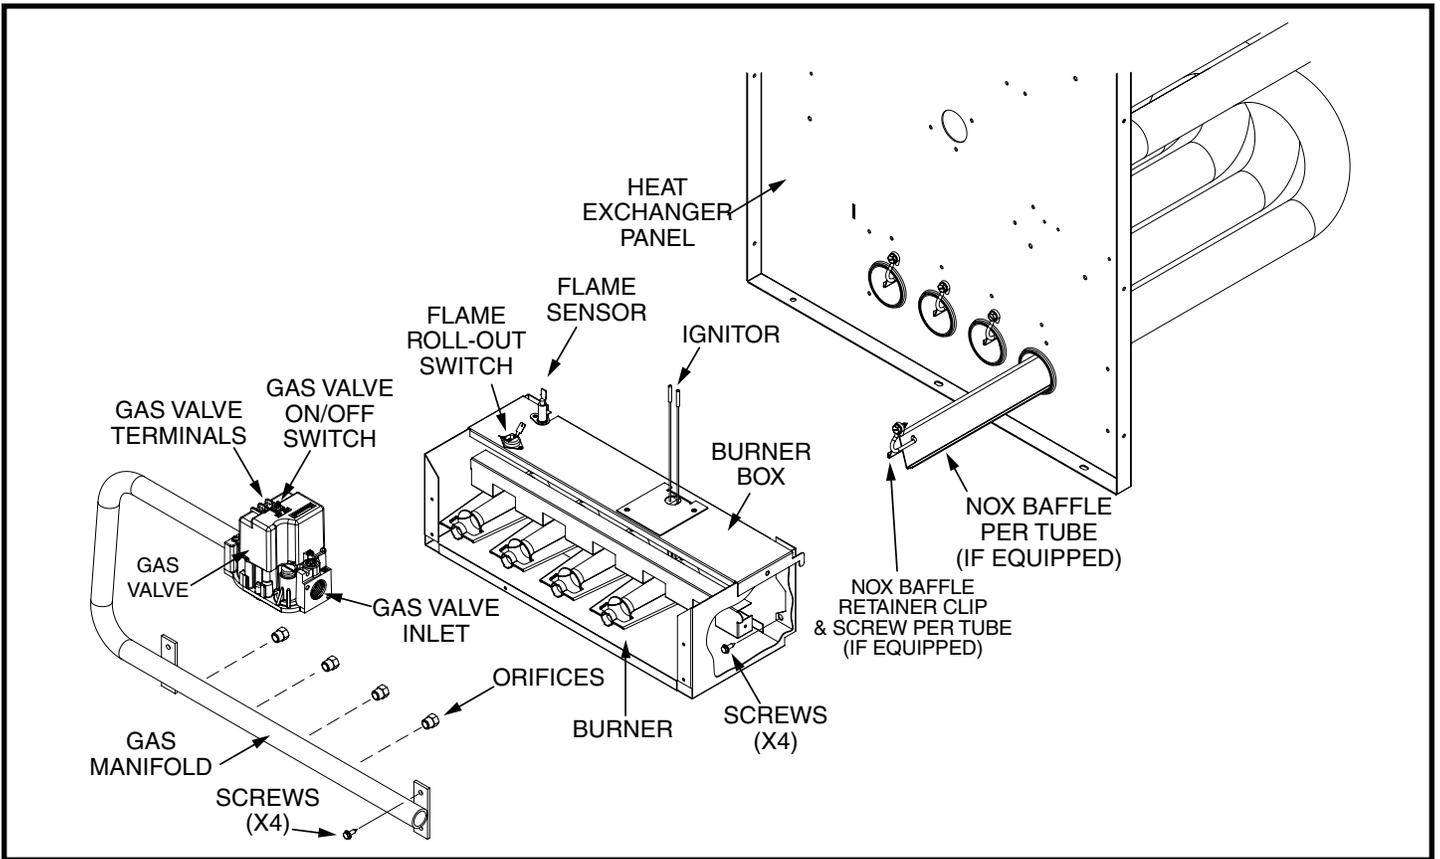

Figure 8. Burner & Manifold Assembly
- Carefully remove the four screws inside the burner box (2 at each end), securing the complete burner box assembly to the heat exchanger panel as shown in Figure 8 \(page 22\). **BE EXTREMELY CAREFUL NOT TO DAMAGE THE IGNITOR WHILE REMOVING THE BURNER ASSEMBLY.**